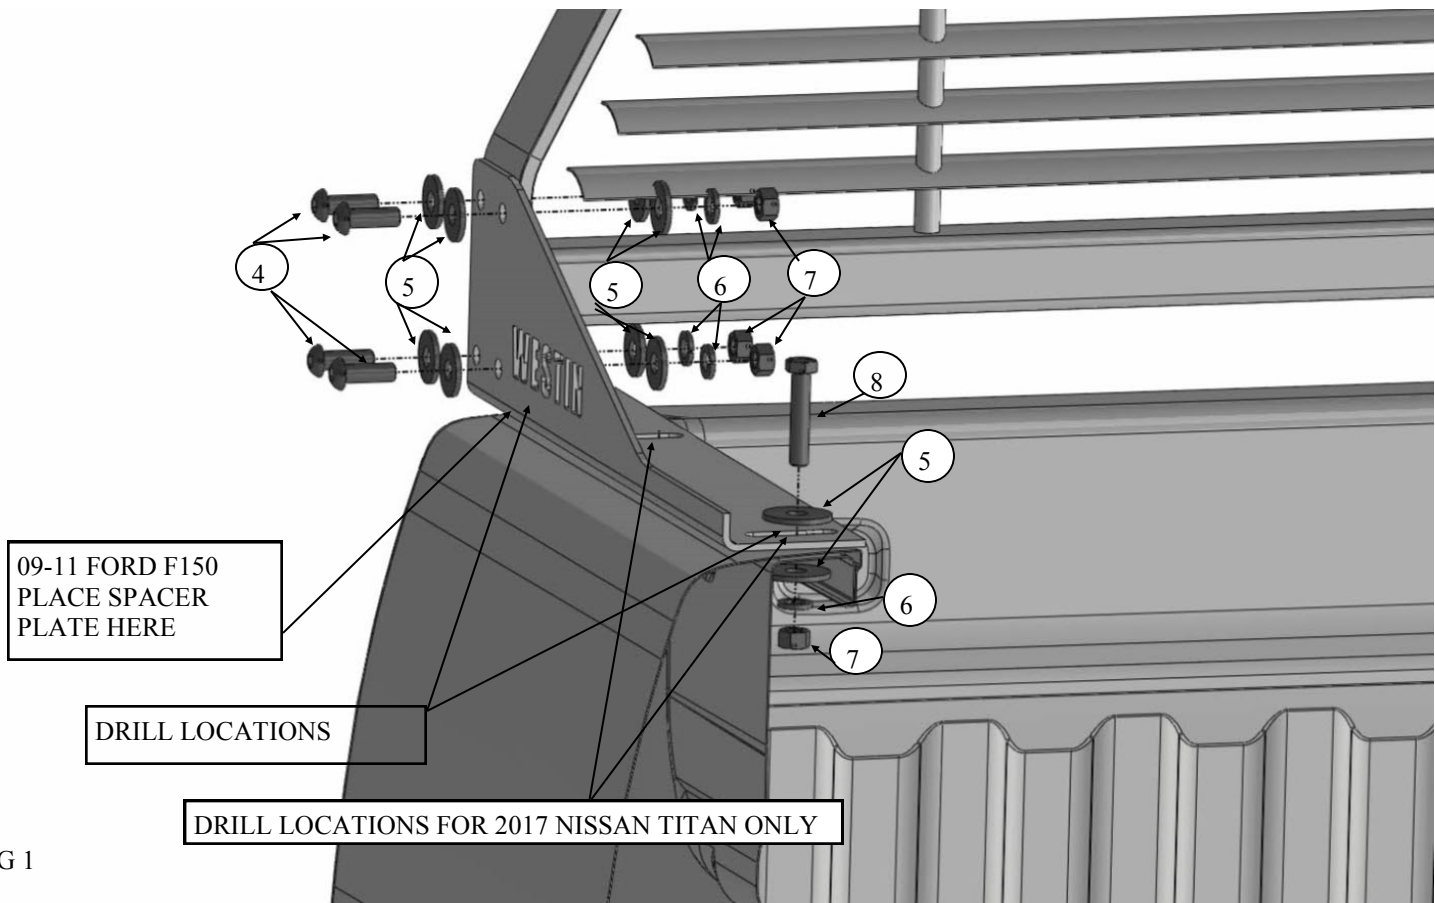

FIG 1
- Assemble the drivers and passenger side mounting brackets to the headache rack using (8) M12 button head bolts, (16) M12 flat washers, (8) M12 lock washers, and (8) M12 hex nuts. Do not fully tighten at this time. Fig 1
- Take the assembled headache rack and place it on the bed rails and center the assembly. Mark the four drill locations then remove the rack and brackets. Fig 1
**For drill locations on 2017 Nissan Titan see figure 1. Center hole is for 2017 Nissan Titan only.**
- Install the driver side mounting bracket starting with the forward most mounting location using the options detailed in Figs 1 and 2. Rotating the mounting bracket 90° allows access to the fasteners through the stake pocket. Repeat for passenger side bracket.